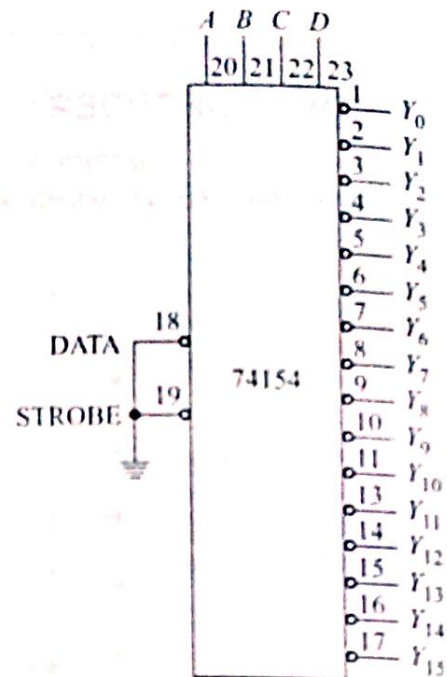

Fig. 4.15 Using 74154 as decoder.
You saw how to use a 74154 as a demultiplexer in Sec. 4.2. To use this same IC as a decoder, all you have to do is ground the DATA and STROBE inputs as shown in Fig. 4.15. Then, the selected output line is in the low state (see Table 4.3). This is why bubbles are shown on the output lines. They remind us that the output line is low when it is active or selected. For instance, if the binary input is
6. What is the significance of the bubbles on the outputs of the 74154 in Fig. 4.15?
7. In Fig. 4.15,  $ABCD = HLHL$ . What are the logic levels of the outputs?